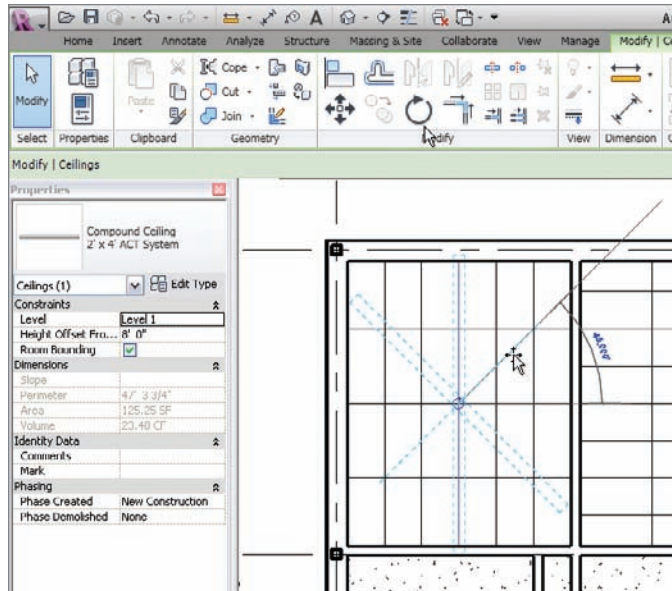

FIGURE 9.7 Select one of the grids and click the Rotate button.
2. Pick the ceiling grid line, as shown in Figure 9.7 (Make sure you're zoomed in close enough to make the Rotate command active.)
3. On the Modify | Ceilings tab, click the Rotate button, as shown in Figure 9.7.